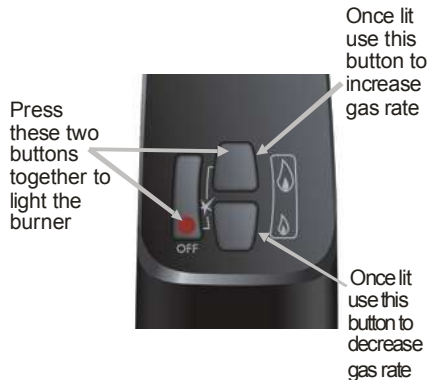

Figure 10
2. Simultaneously press and hold the  (red circle) and  (large flame) buttons until a short acoustic signal confirms the start sequence has begun, then release the buttons (see **Figure 10**).
5. To adjust the gas rate to desired setting press the  (large flame) to increase the flame height or  (small flame) to decrease the flame height on the handset (see **Figure 10**).